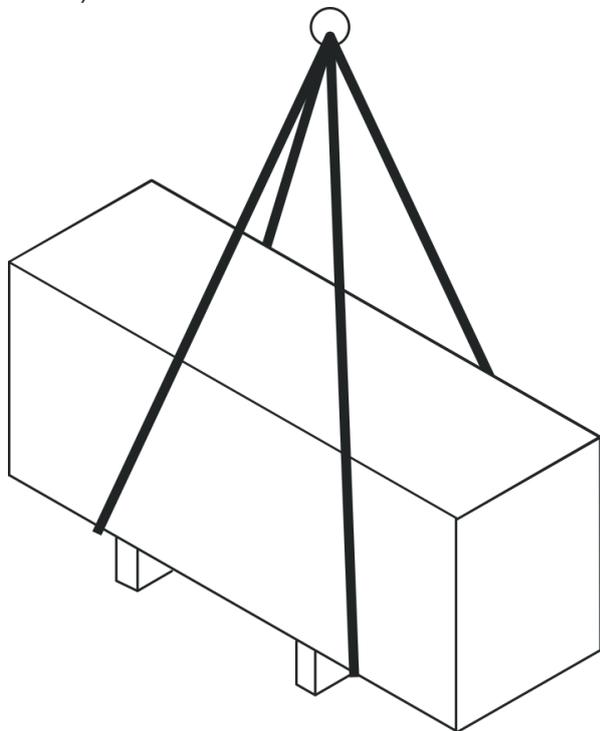

Fig. 27 Transport of package by crane
1. Attach with ropes, straps or multipoint suspension gear in accordance with Fig. 27. If necessary, Observe suspension markings on the package.